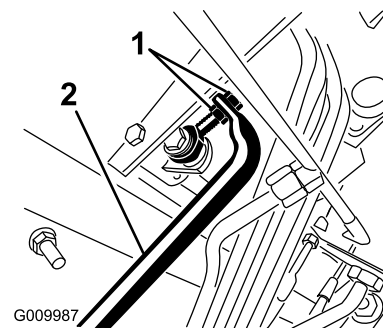

Figure 109
5. Adjust the jam nuts on the pump rod end to move the pump control tube forward to eliminate forward creep or rearward to eliminate rearward creep (Figure 109).